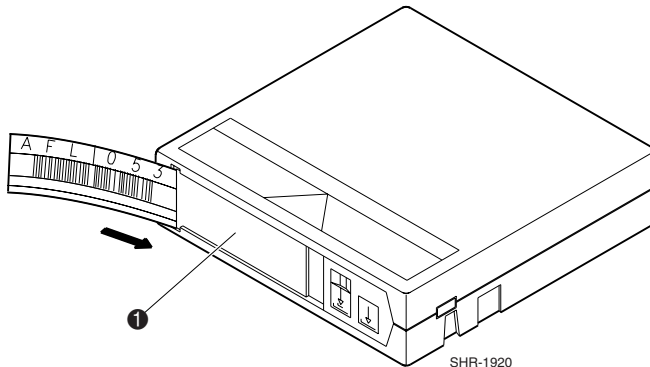
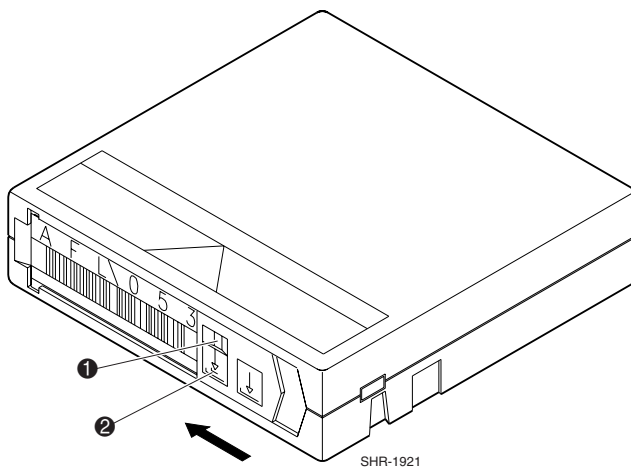
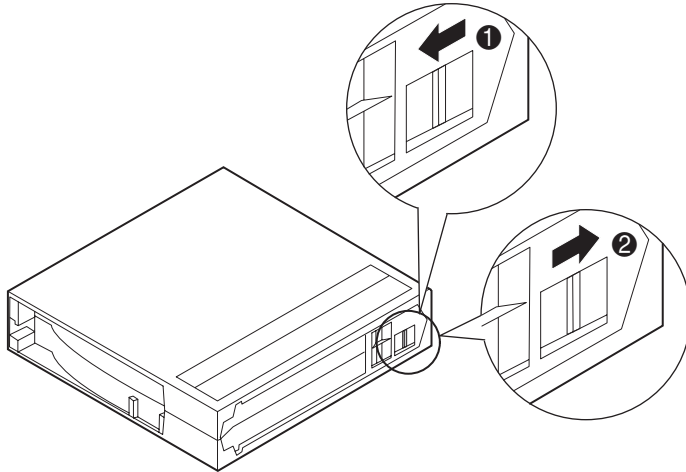

Figure 2-7. Inserting a bar code label
Figure 2-8. Write-protecting tape cartridges
Figure 2-11. Tape cartridge write-protect switch
Place the label in the slide-in slot (❶ Figure 2-7) on the front of the tape cartridge.
Each tape cartridge has a write-protect switch (Figure 2-8). This switch determines whether new data can be written to the tape cartridge (write-enabled) or whether data on the tape cartridge is protected from being erased or overwritten (write-protected).
To write-protect the tape cartridge, move the switch to the left (❷ Figure 2-8). To write-enable the tape cartridge, leave the switch in default position (to the right).
An orange indicator appears above the switch when the tape cartridge is write-protected (❶ Figure 2-8).
Tape cartridges have a write-protect switch to prevent accidental erasure of data. Before inserting a tape cartridge into an SDLT tape drive, position the write-protect switch on the front of the tape cartridge (see Figure 2-11). By moving the switch to the left ❶, the tape cartridge is write-protected. By moving the switch to the right ❷, the tape cartridge is write-enabled.
1. Prepare the tape cartridges to be inserted by affixing a bar code label and write-protecting or write-enabling each tape cartridge as desired (see Figure 2-7, Figure 2-8, and Figure 2-11).